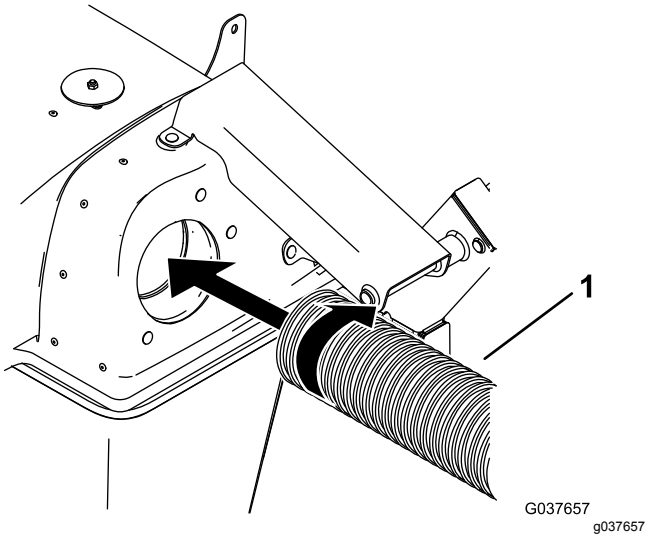

Figure 9
3. Thread 1 end of the tube into the hood until it is secure (Figure 9).